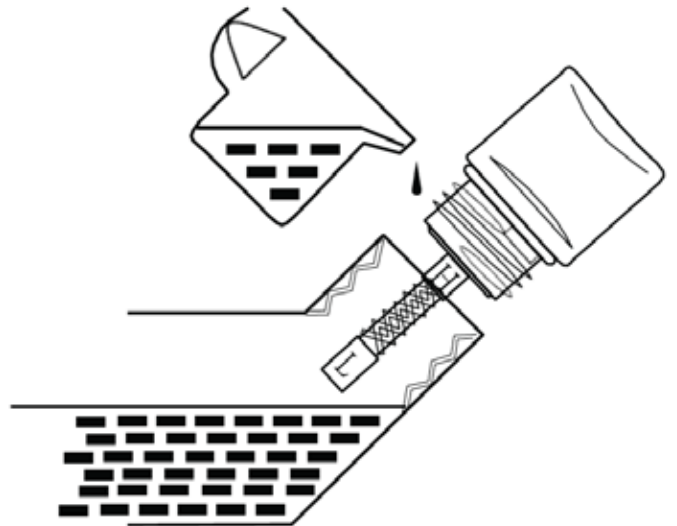

Figure 11: Recommended oil
- **Acceptable Oil Level** – Oil is visible on the crosshatches between the H and L lines on the oil fill plug/dipstick (see Figure 11).